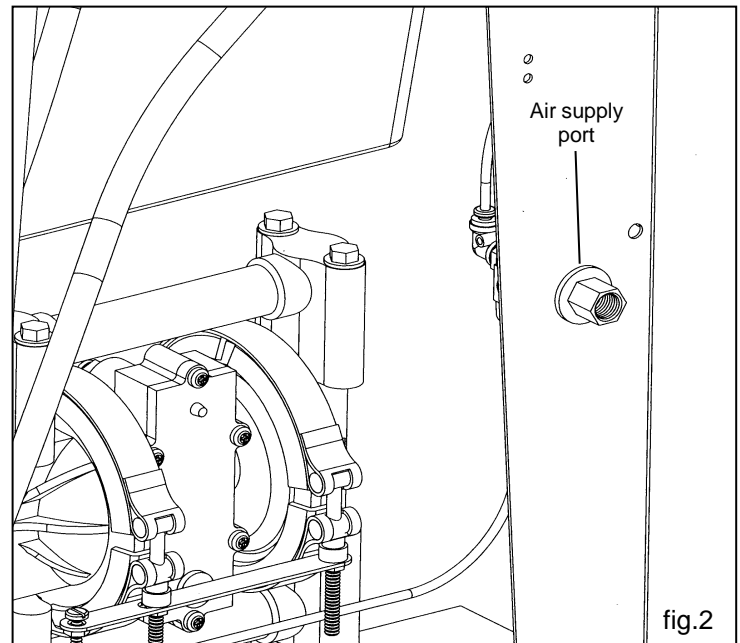

fig.2
- 1) Install a 1/4 in. npt male coupler, that is compatible with the quick disconnect of your air supply line, into the air supply port of the filter/regulator located on the right rear leg (see fig.2).